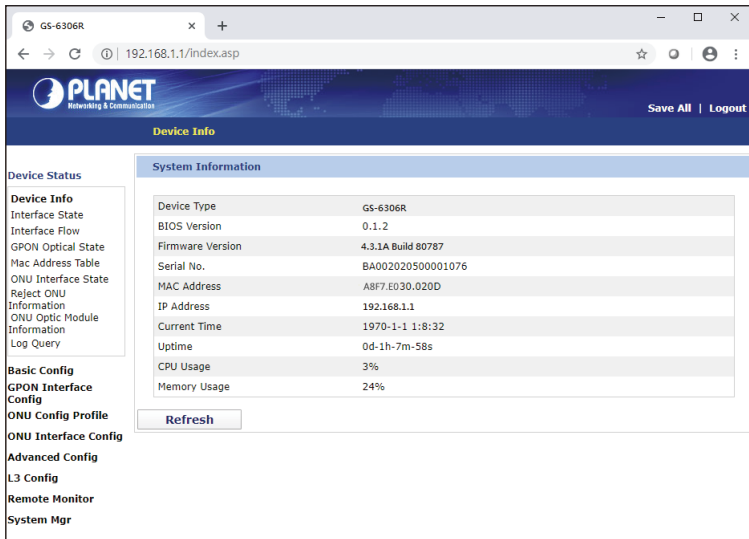

Figure 7-3 Web Main Screen of CS-6306R Chassis Switch
3. After entering the password, the main screen appears as shown in Figure 7-3.